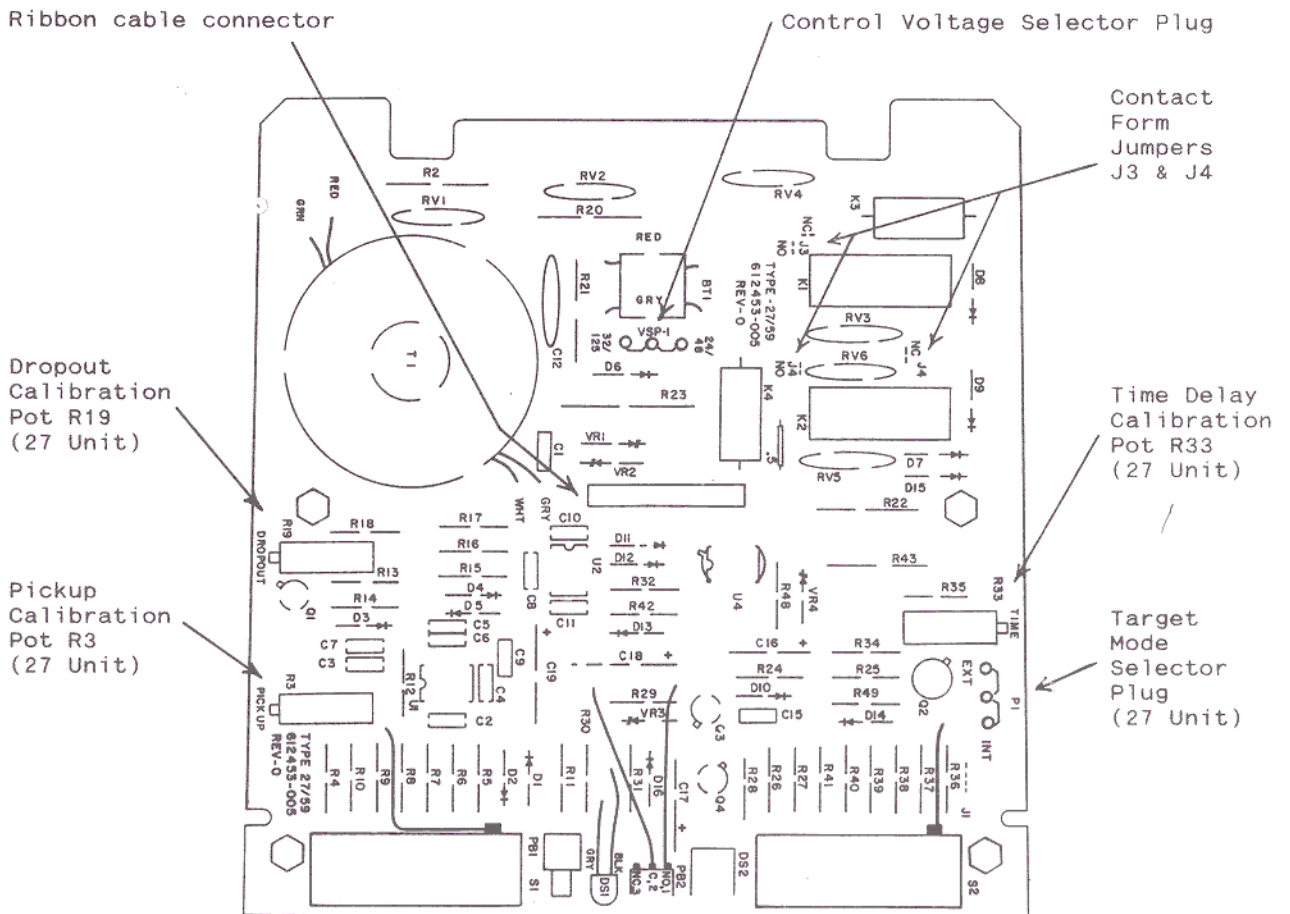

Figure 5: Typical Circuit Board Layout - Type 27/59
3. Contacts 5-6 and 12-13 on the Type 27/59 can be converted from normally-open to normally-closed by changing internal jumpers. Catalog series 410Dxxx0 provides movable links - see circuit board layout, Figure 5 for details. See pg 16 for earlier models.
## Notes for Figure 5, page 10, Type 27/59:
Calibration can be trimmed to the final settings required for the application at this time. Settings may be varied from the fixed taps by using the internal calibration potentiometers. The identification of these potentiometers is given below, and their locations can be found on the circuit board layouts shown in Figures 5, 6 and 7.